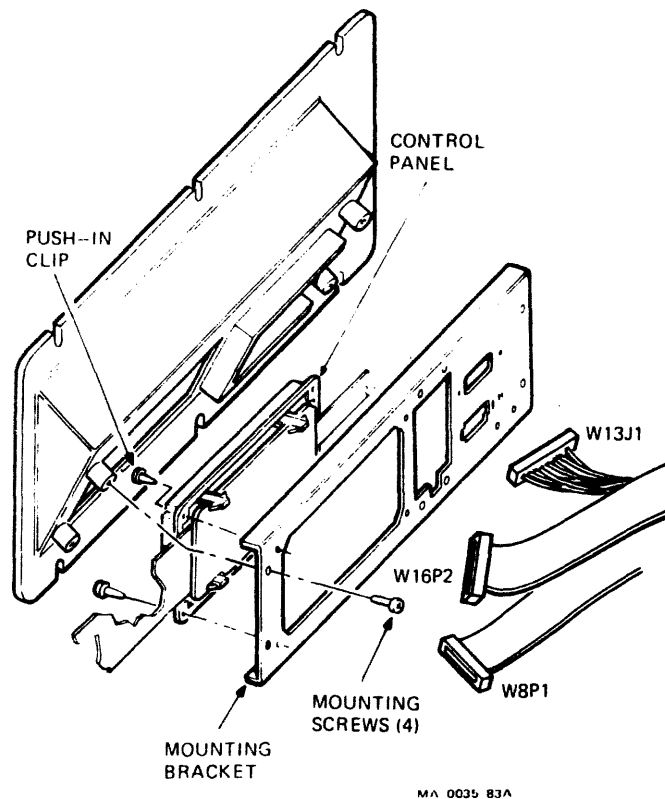

Figure 5-19. CONTROL PANEL ASSEMBLY
5. Remove the push-in clips (see Figure 5-19) securing the control panel to the mounting bracket.